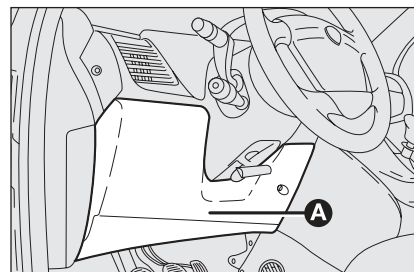

fig. 38
To gain access to the fuses in the fuse box on the dashboard, remove the plastic protection **A**-fig. 38.
- 20A fuse for external amplifier (Bose Hi-Fi sound system), installed near the dashboard fusebox (accessible by removing the protective plastic **A-fig. 38**);
- 20A fuse for sunroof, installed near the dashboard fusebox (accessible by removing the protective plastic **A-fig. 38**);